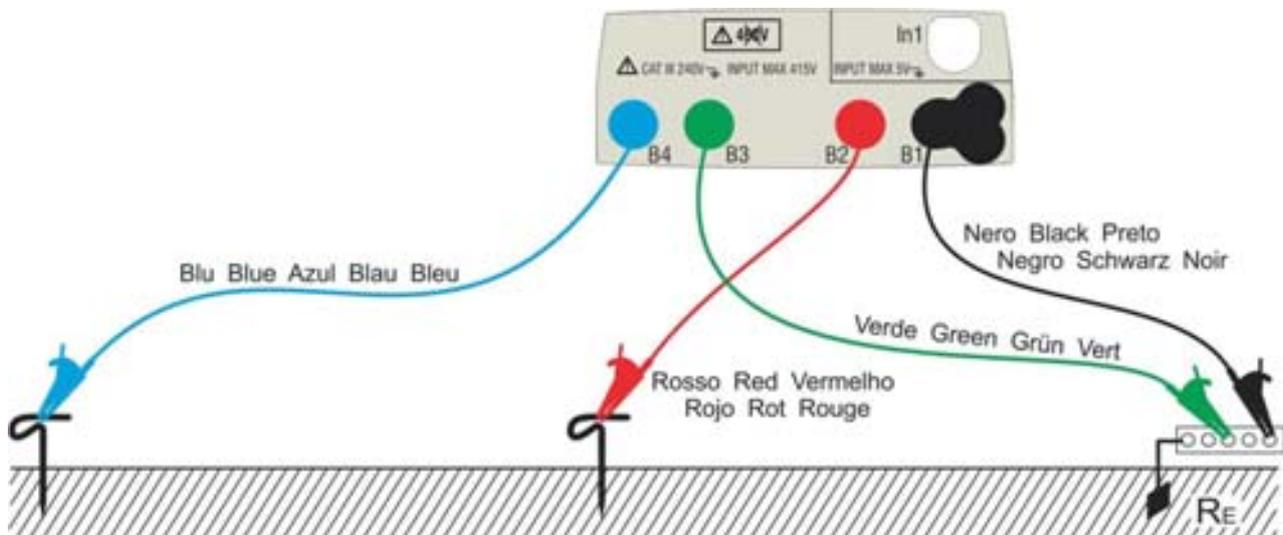
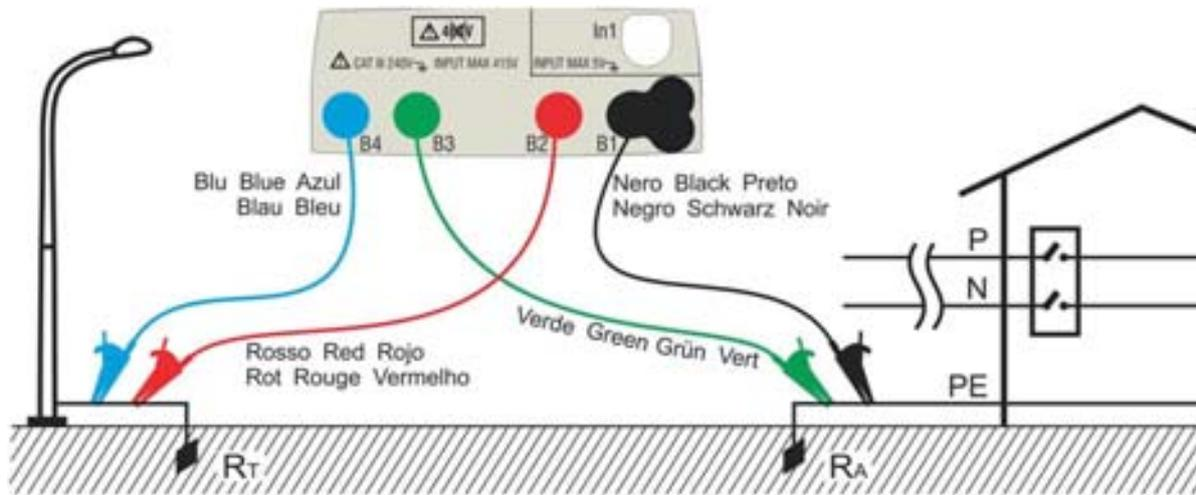
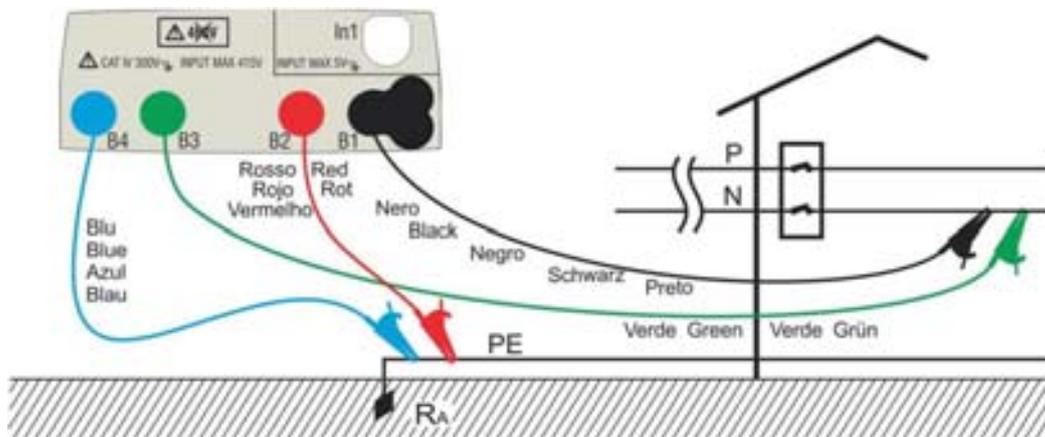
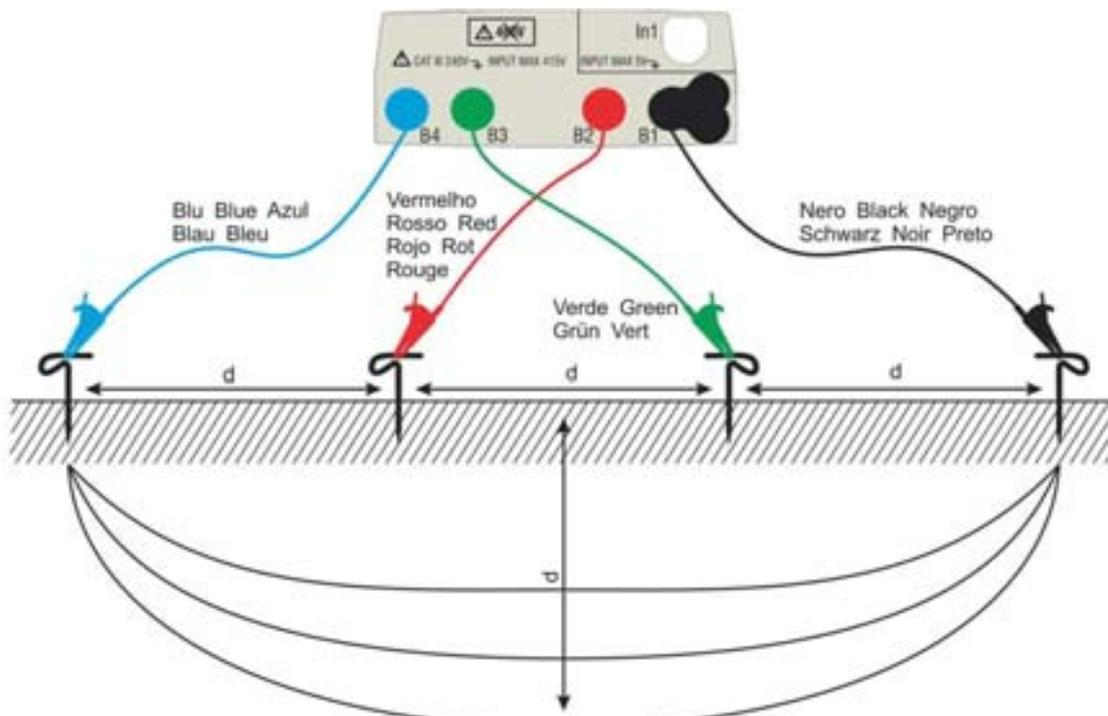

Fig. 28: Three-wire earth resistance measurement
Fig. 29: Two-wire earth resistance measurement using an auxiliary rod
Fig. 30: Two-wire earth resistance measurement from the panel board
Fig. 31: Ground resistivity measurement
- 12 Connect the alligator clips to the auxiliary rods and to the installation under test according to Fig. 28, Fig. 29, Fig. 30 or Fig. 31.